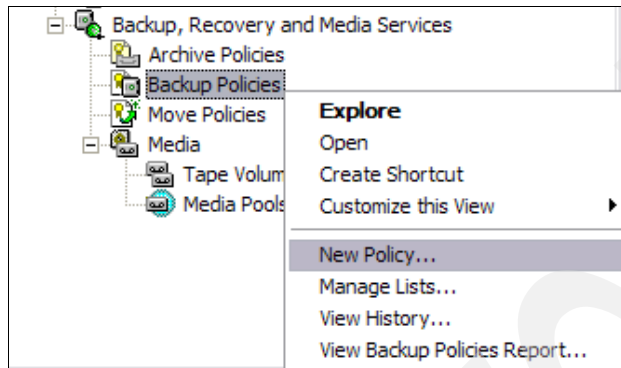

Figure 7-13 Create a new policy
1. Create a backup policy by right-clicking Backup Policy and selecting **New Policy**, as shown in Figure 7-13.